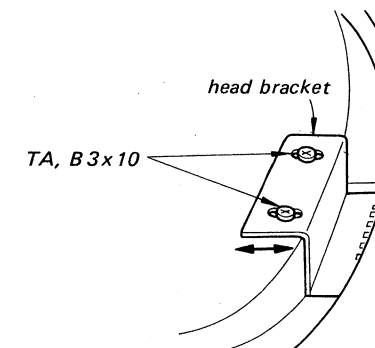
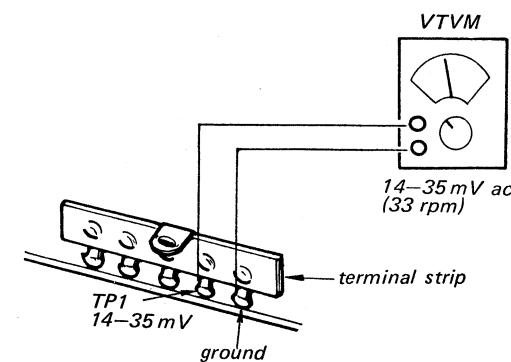

Fig. 3-2
Fig. 3-3
1. Adjust the position of the head bracket by loosening B3x10 screws (See Fig. 3-2) so that the VTVM reads 14-35 mV (33 rpm) as shown in Fig. 3-3.